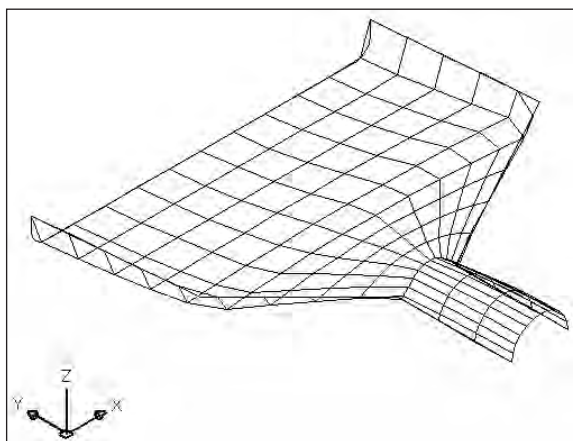

Figure 23-38: The completed dustpan — or starship
6. Save your drawing. It should look like Figure 23-38. It's either a dustpan or a starship—your choice.